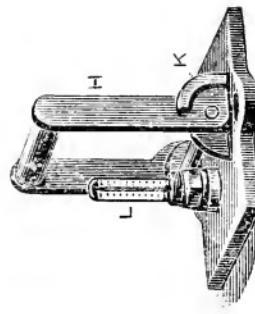
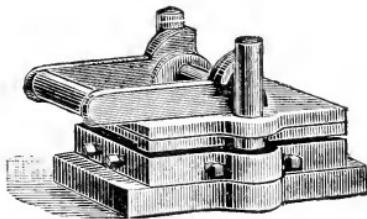

Fig. 4. PLATEN OR TOP PLATE.
Fig. 7.
Next lift the platen (Fig. 4), and place it upon the mould-plate and at the same time press down slightly until the cams (K. K.) are opposite the slots (B. B.) in the upright posts; then pull the Lever (H) over until it comes down on the platen (Fig. 7). Push the
When the mould is dry, lift the platen (Fig. 4) on the press, allowing it to slide down over the upright posts until it rests flat on the bed of the press (Fig. 8). Turn on all the